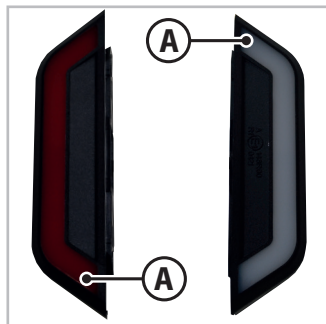

Fig.7.4 - Overcab side marker LED lights
2. Remove the white-red cover (A - Fig.7.4) by removing the mounting screws.
5. Reassemble the white-red cover (A - Fig.7.4) using the mounting screws previously removed.